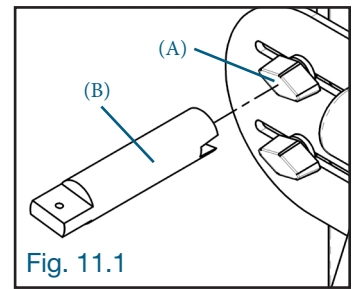

Fig. 11.1
11.1 ADJUSTMENT PROCEDURES (fig. 11.1)